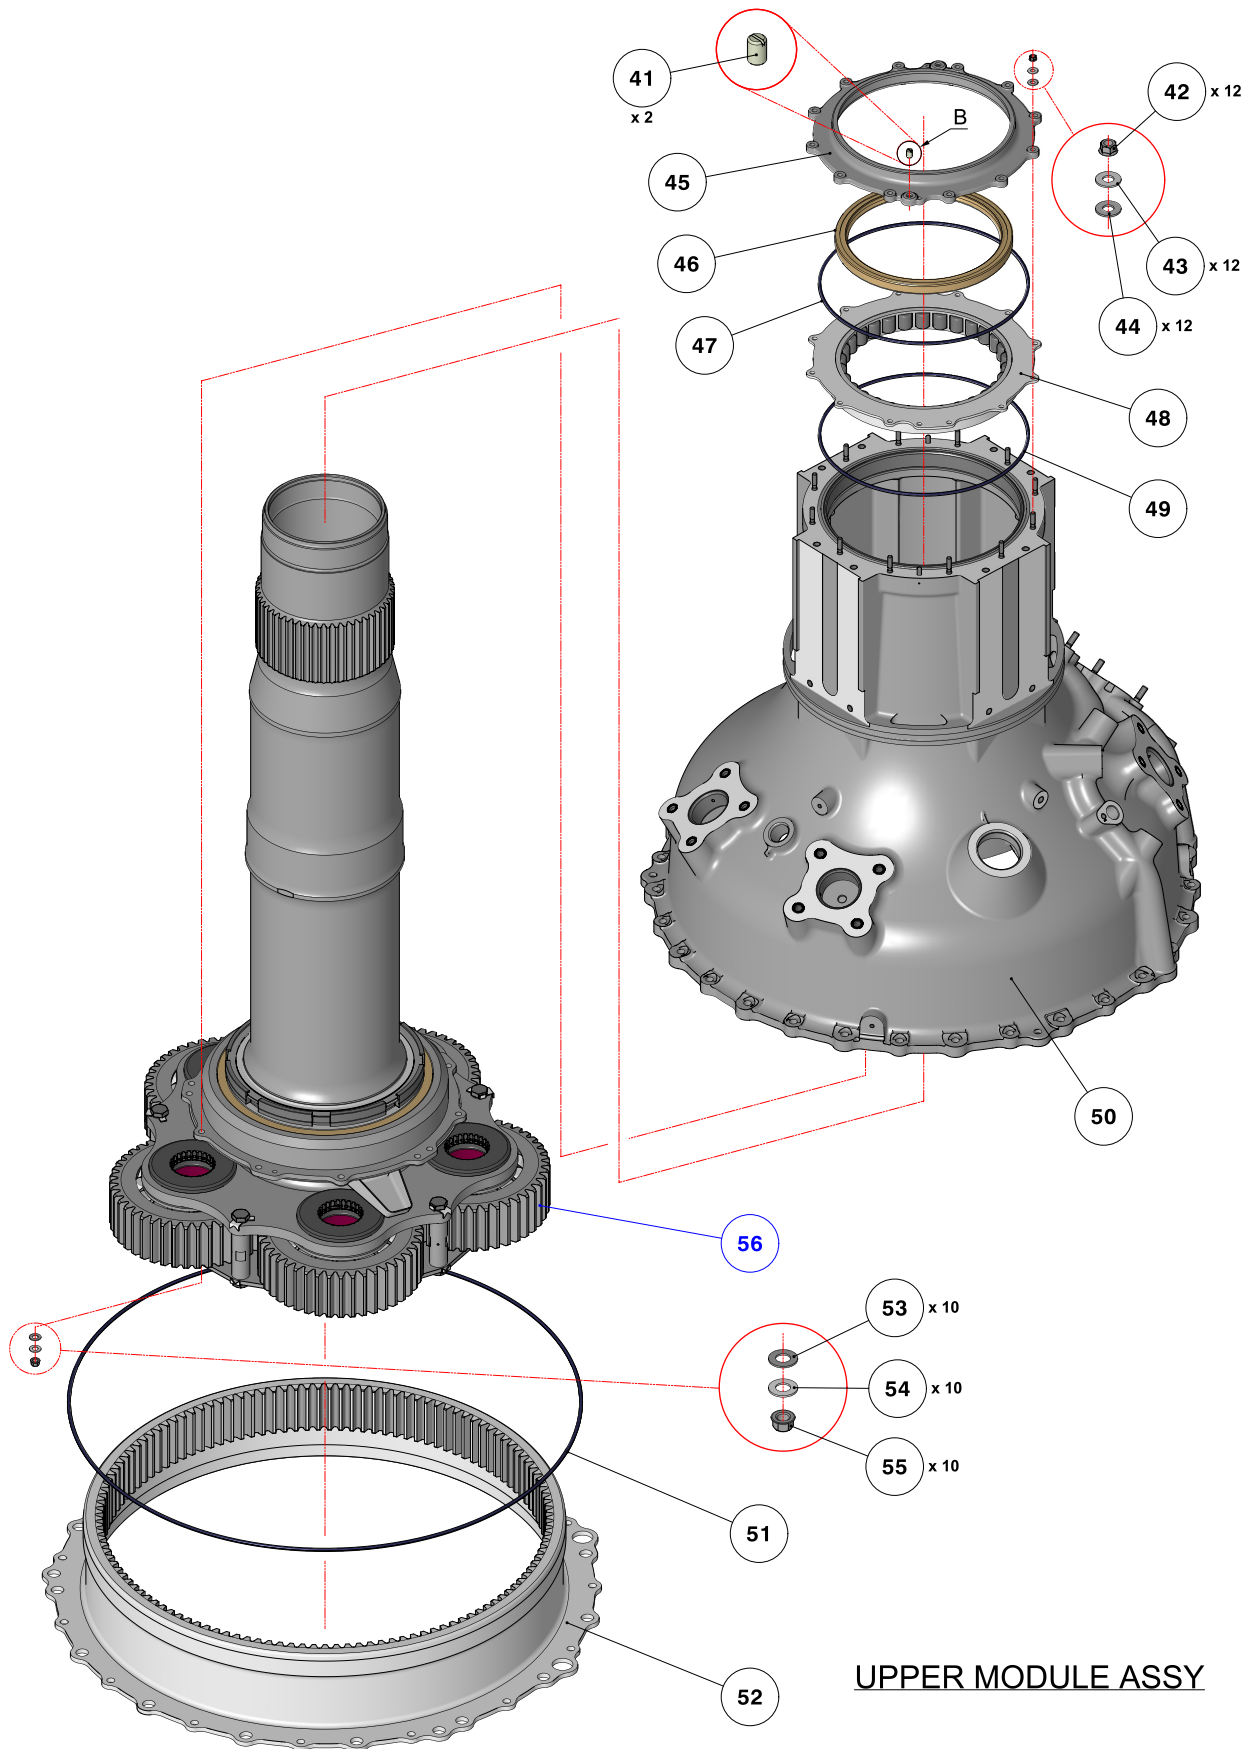

Figure A4
- 17.19 With reference to Figure A4, safety the parts in position using nuts (55) and washers (53) and (54). Do not tighten the nuts at this time.
- 17.20 With reference to Figure A4, with the parts at ambient temperature, torque the nuts (55) to 8.5÷10.7 Nm. (75 thru 95 lbf in) gradually and in a cross sequence.